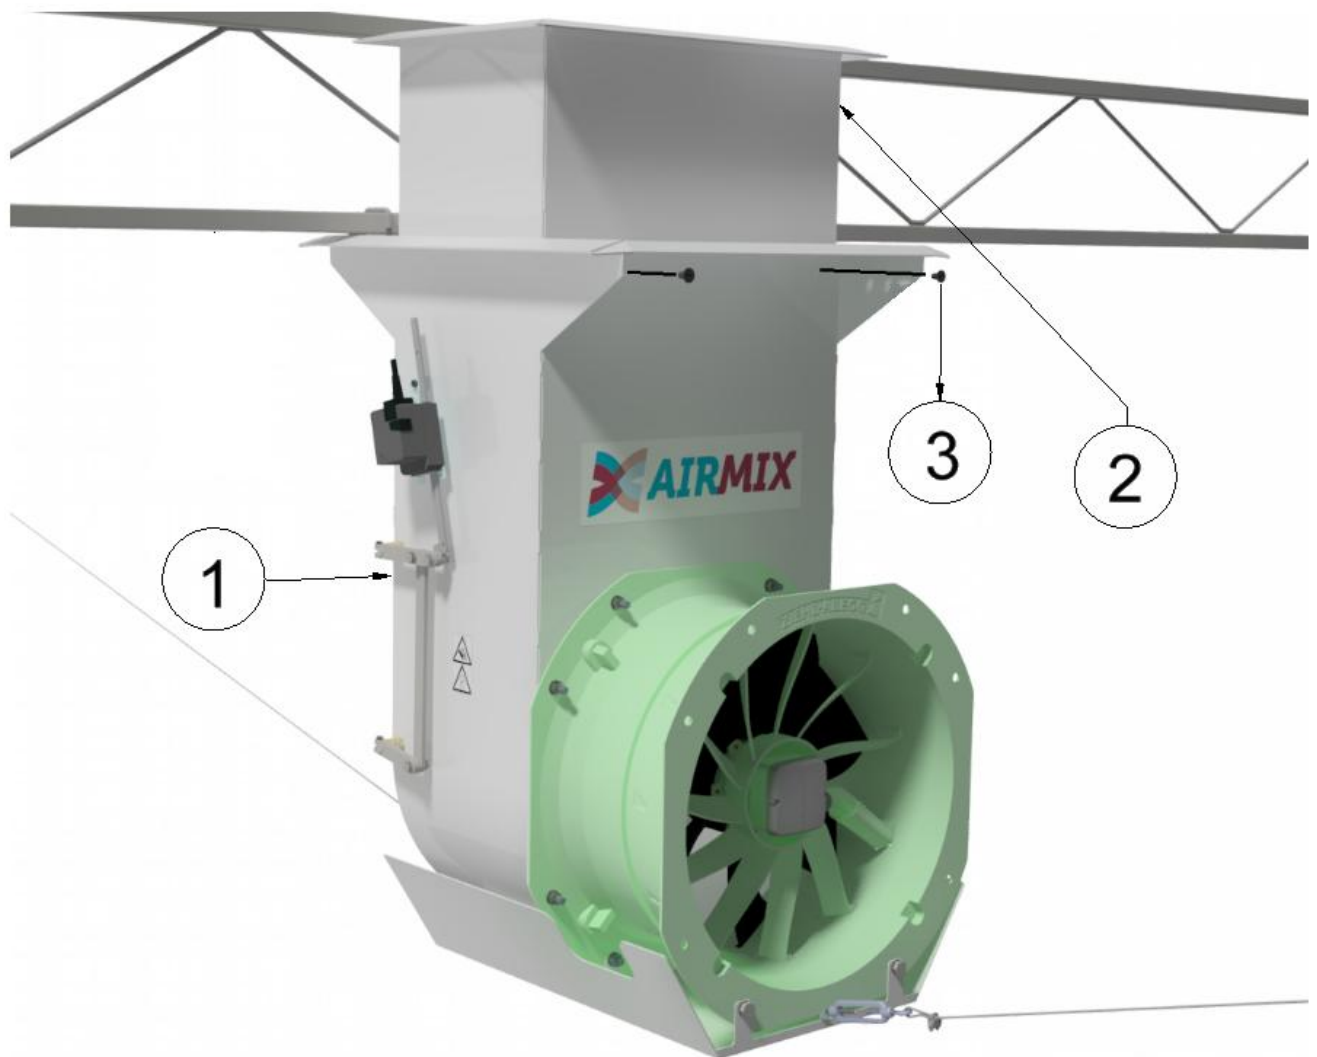

Figure 8 Installing the extension
- Assembly (see Figure 8);
- Insert the extension (2) into the Airmix housing;
- Attach the extension to the Airmix housing using four self-tapping screws (3) (two screws in the front and two screws in the rear of the Airmix);